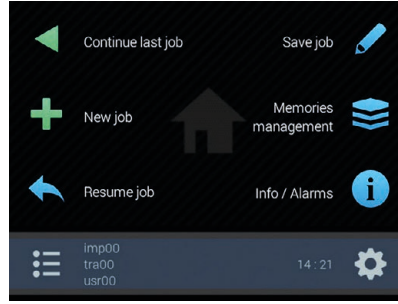

Fig. 242
- Switch the monitor on (par 1.2). After self-diagnosis, the monitor displays screen "Home" (Fig. 242).